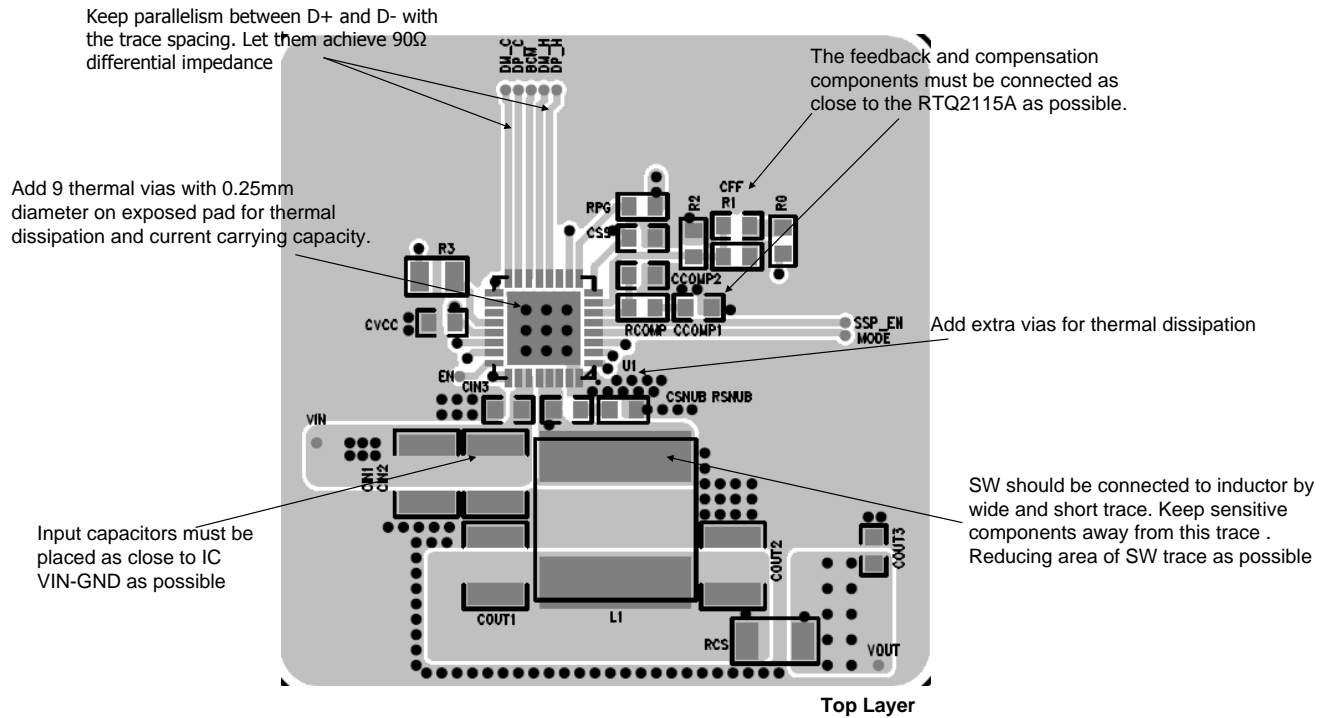

Figure 25. Layout Guide (Top Layer)
- Figure 25 to Figure 28 are the layout example.